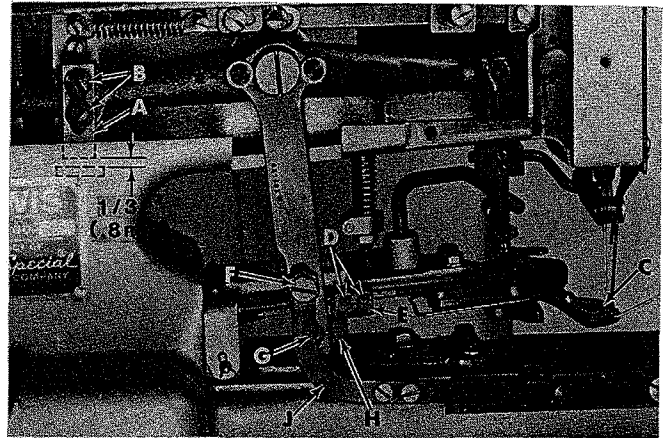

Fig. 35
Machine is in STOP POSITION and the clamp is raised. There should be 1/32 inch (0.8 mm) clearance from the bottom of the clamp lifting lever stop (A, Fig. 35) to the nipper bar bearing block. This can be checked by manually lifting the clamp lift lever and noting the travel until the stop contacts the bearing block.
Loosen the two screws (B, Fig. 35) securing the stop block and move the block up or down as needed. Tighten screws (B).
The button clamp jaws (C, Fig. 35) should start to open just before the clamp begins to lift. The clamp jaws should then open to release the button and return to the clamping position when the clamp is completely raised.
To open the jaws earlier, loosen screws (D, Fig. 35) and move the front tripping block (E) to the rear. Moving block to the front will cause jaws to open later. Tighten screws (D). To close the jaws sooner, remove screw (F) securing the knife drive link arm, then loosen screw (G) and move tripping block (H) down. Raising block (H) will open the jaws wider for a longer duration. When the desired condition is obtained, retighten screw (G) and replace screw (F) securing the knife drive link arm (J).
NOTE: To disengage the clamp opener reposition the tripping blocks (E and H, Fig. 35) so they do not come in contact.